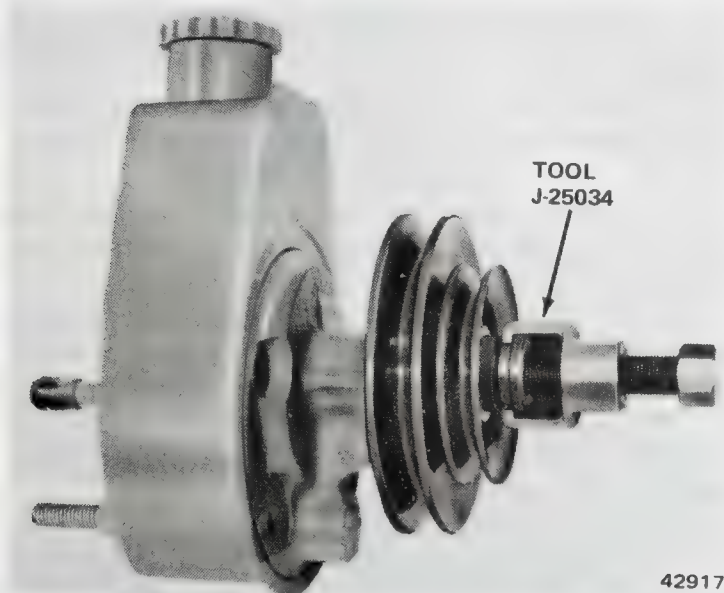

Fig. 2K-114 Pump Pulley Removal
- (1) Position drip pan under power steering pump.
- (2) Remove air pump drive belt, if equipped.
- (3) On eight-cylinder models loosen pump mounting stud nuts (at rear of pump mounting bracket), move pump toward engine and remove belt.
- (4) On four-cylinder models, loosen adjuster locknuts, move pump toward engine and remove belt.
- (5) Remove pump pulley using Remover Tool J-25034 (fig. 2K-114).